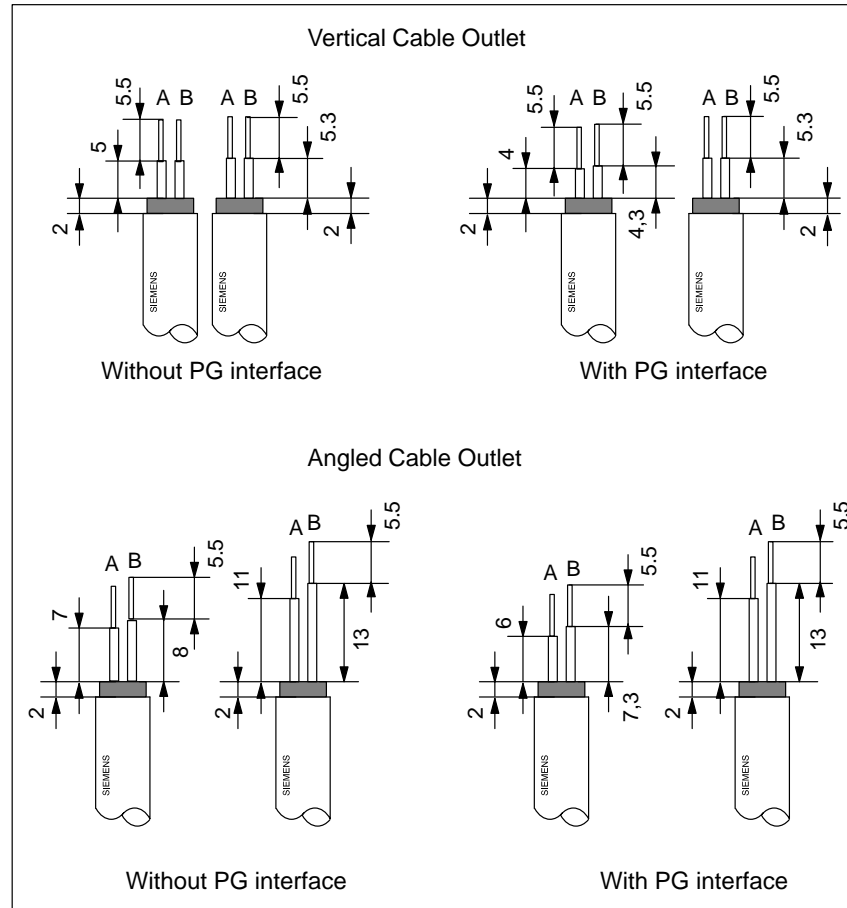

Figure 3-10 Length of Insulation to be Removed when Fitting the Bus Connector (6ES7 972-0B.20 ...)
- Strip the insulation from the LAN cable as shown in Figure 3-10.